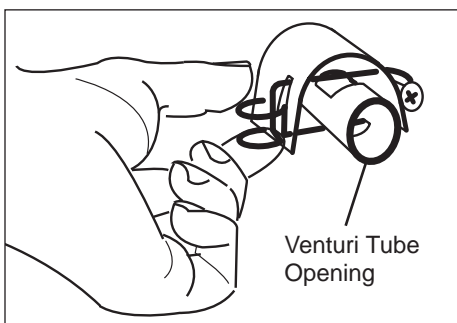

Figure 3
10. Pinch the Regulator Spring Clip together and insert the Regulator Assembly into the venturi tube opening on the right side of the Grill Body. Release the Regulator Spring Clip and pull back slightly on the Regulator Assembly to set the Regulator Spring Clip into position. See Figure 3 for details.